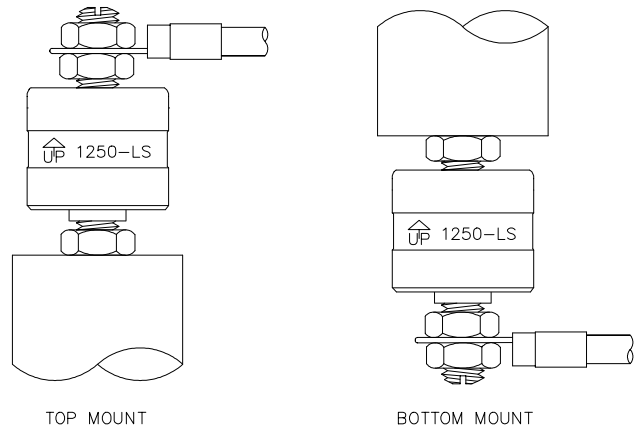

Fig 2 Mounting Examples
2. The slip ring is mounted by the body or the lower threaded stud when mounted above the rotating element, or by the upper threaded stud when mounted below the rotating element. They are not designed to carry mechanical loads. In horizontal applications, mount the slip ring with the body rotating to reduce mechanical loads on the bearing. One end should be allowed to float attached only by the connecting wires. **Never rigid mount both ends of the slip ring. This will cause slip ring failure.** Limit mounting eccentricity to .005" (.13mm). <Fig 2>
4. Use stranded wires of ample length and flexibility to avoid mechanical loads. Avoid taut wires that pull on the slip ring. The wires should have enough free play to allow the connection end to rotate freely approximately ¼ turn. Wires that allow too much free play can wrap around the slip ring. <Fig 2>